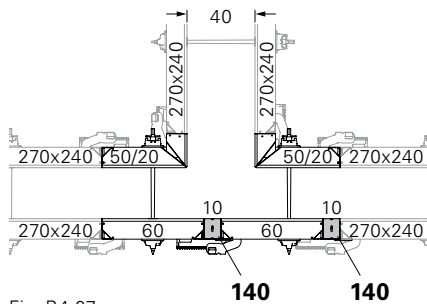

Fig. B4.07
- Wall thickness 40: Fig. B4.07